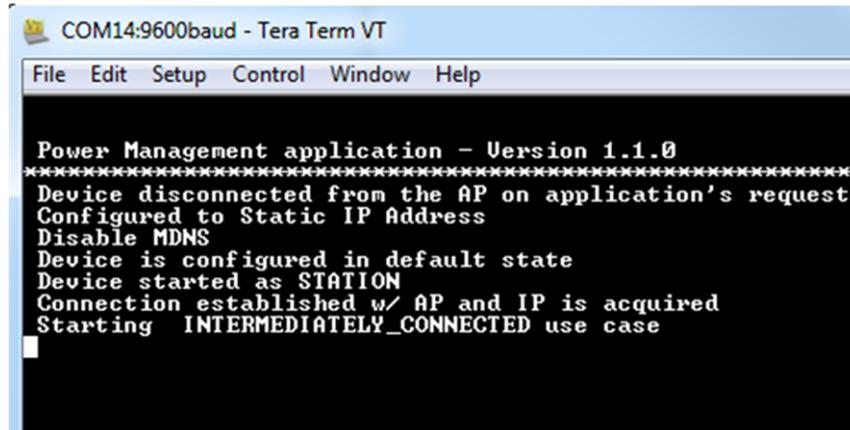

Figure 27. Teraterm Application Termination
- Press F11 on the CCS window, and let the application run. On successful termination you should see in the Tera Term outputs similar to Figure 27.